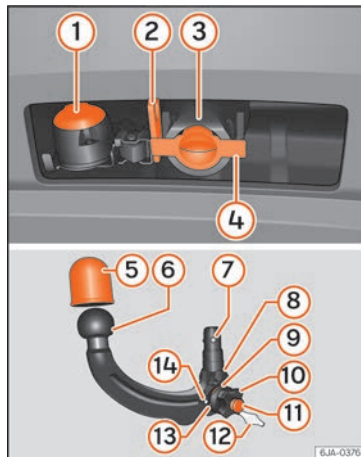

Fig. 233 Towing bracket device support for hitching/ball-headed bar.
Key to » **Fig. 233**
- Remove the cap from the clamping bush **4** »» Fig. 233 by pulling downwards.
»» Fig. 233.